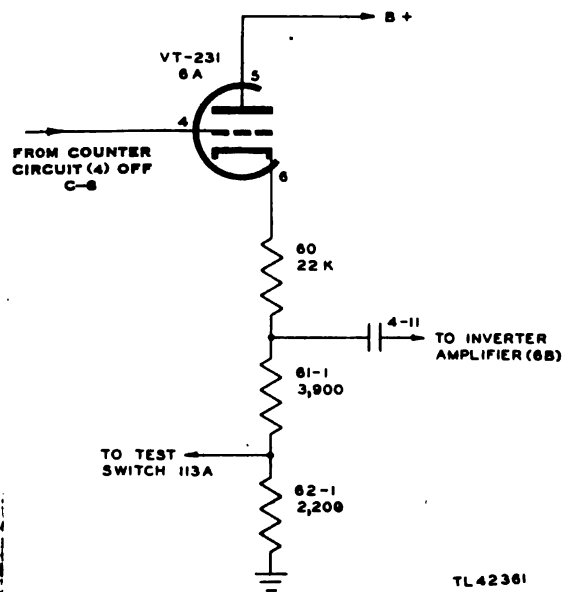

Figure 52. Cathode follower, 6A, partial schematic.
a. The voltage from the cathode follower tube 6A (fig. 52) is coupled to the grid of tube 6B through capacitor 4-11 and the small step voltage applied to the grid. This tube is an amplifier operating without fixed bias and the comparatively small input is amplified and inverted.